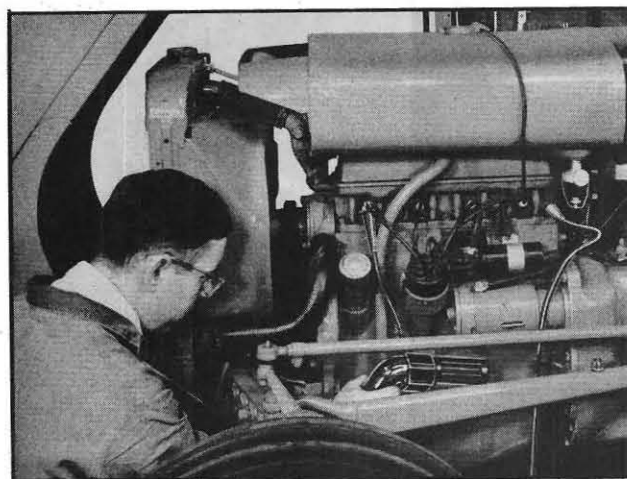

Fig. 217
3. Connect blue secondary lead to No. 1 spark plug, Fig. 217.